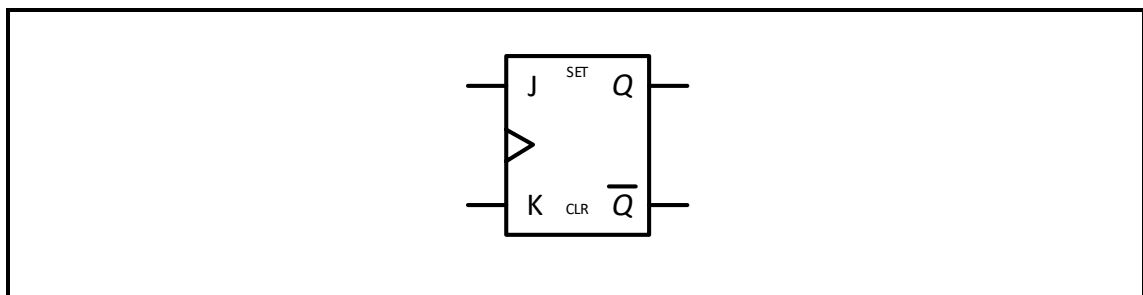

FIGURE 5.5: CLOCKED J-K-TYPE FLIP-FLOP
- 5.5 Refer to FIGURE 5.5 of a clocked J-K-type flip-flop below and answer the questions that follow.
- 5.5.2 Study the inputs of J and K and complete the timing diagrams of the flip-flop in FIGURE 5.5 above on the ANSWER SHEET for QUESTION 5.5.2. Assume that Q starts low. (4)